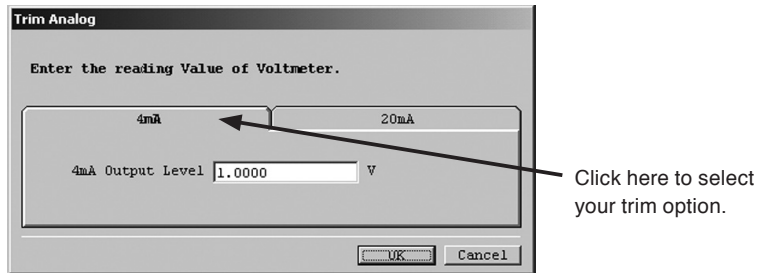

Fig.78
- ⑨ A message box like the one shown in Fig. 78 appears. Select either the 4mA trim or the 20mA trim. Firstly the 20mA trim is described here, followed by the 20mA trim. Key in the reading of the test instrument and click on "OK" button.
- ⑩ To proceed to the 20mA trim, click on the 20mA at the message box like the one shown in. Fig. 78 and, similar to the 4mA trim procedure, trim the reading until the test instrument connected registers 5V.